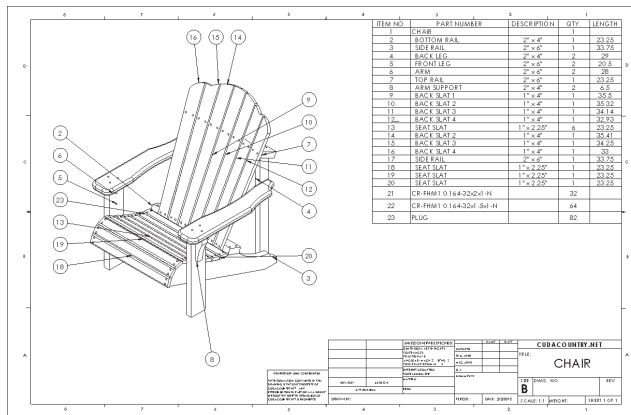
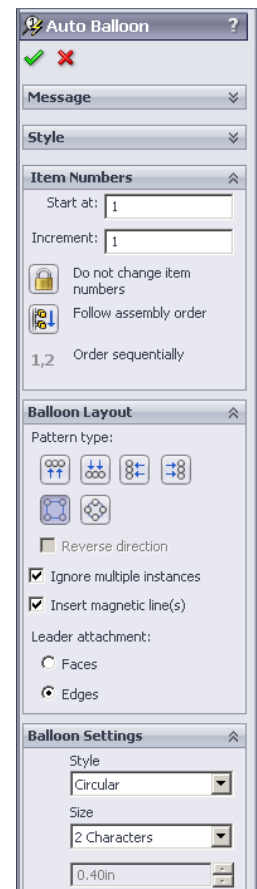

Fig. 10
Fig. 11
Step 1. Click Chair in Isometric view on your drawing, **Fig. 10**.
Step 4. In the Property Manager, grab a Balloon and drag to size group click OK , **Fig. 10** and **Fig. 11**.